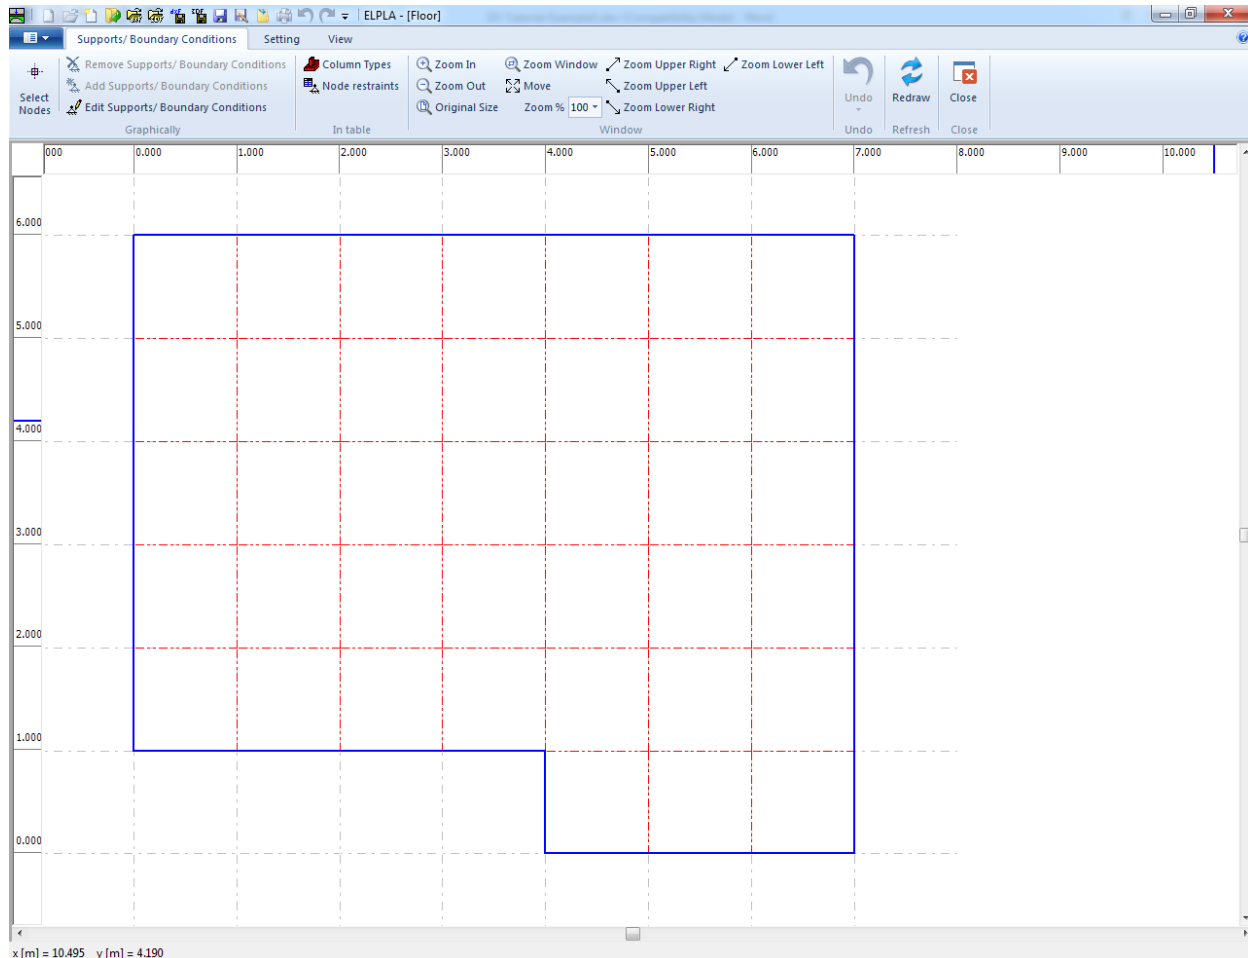
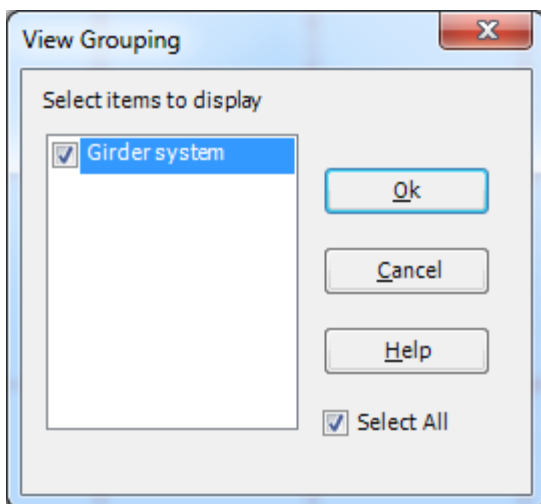

Figure 2.20 "Supports/ Boundary Conditions" Window
Figure 2.21 "View Grouping" check group box
In general, columns under the slab are considered as rigid supports. These supports are defined by the "Supports/ Boundary Conditions" command. To define supports choose "Supports/ Boundary Conditions" command from "Data" Tab. The following Tab in Figure 2.20 appears.
- Choose "View Grouping" command in "View" menu in Figure 2.20. The "View Grouping" check group box in Figure 2.21 appears